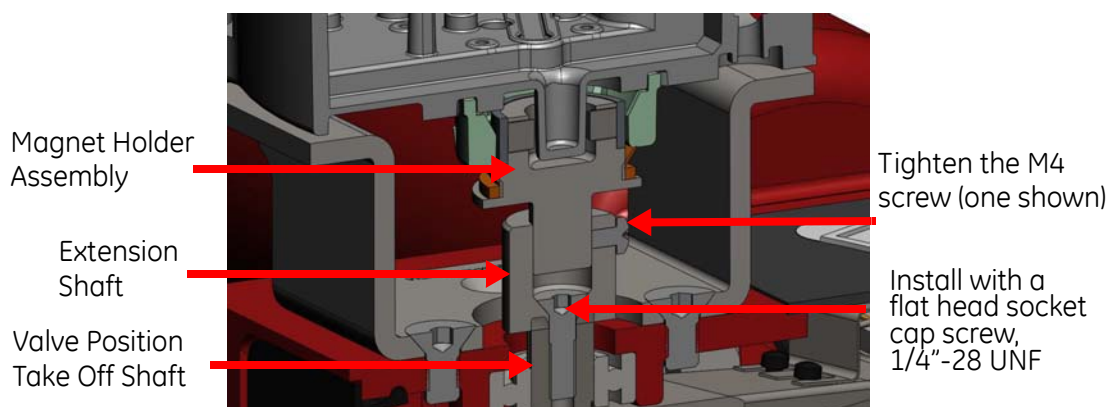

Figure 15 Extension Shaft to the Valve Position Take-off Shaft
2. Bolt the extension shaft to the valve position take-off shaft (Figure 15).